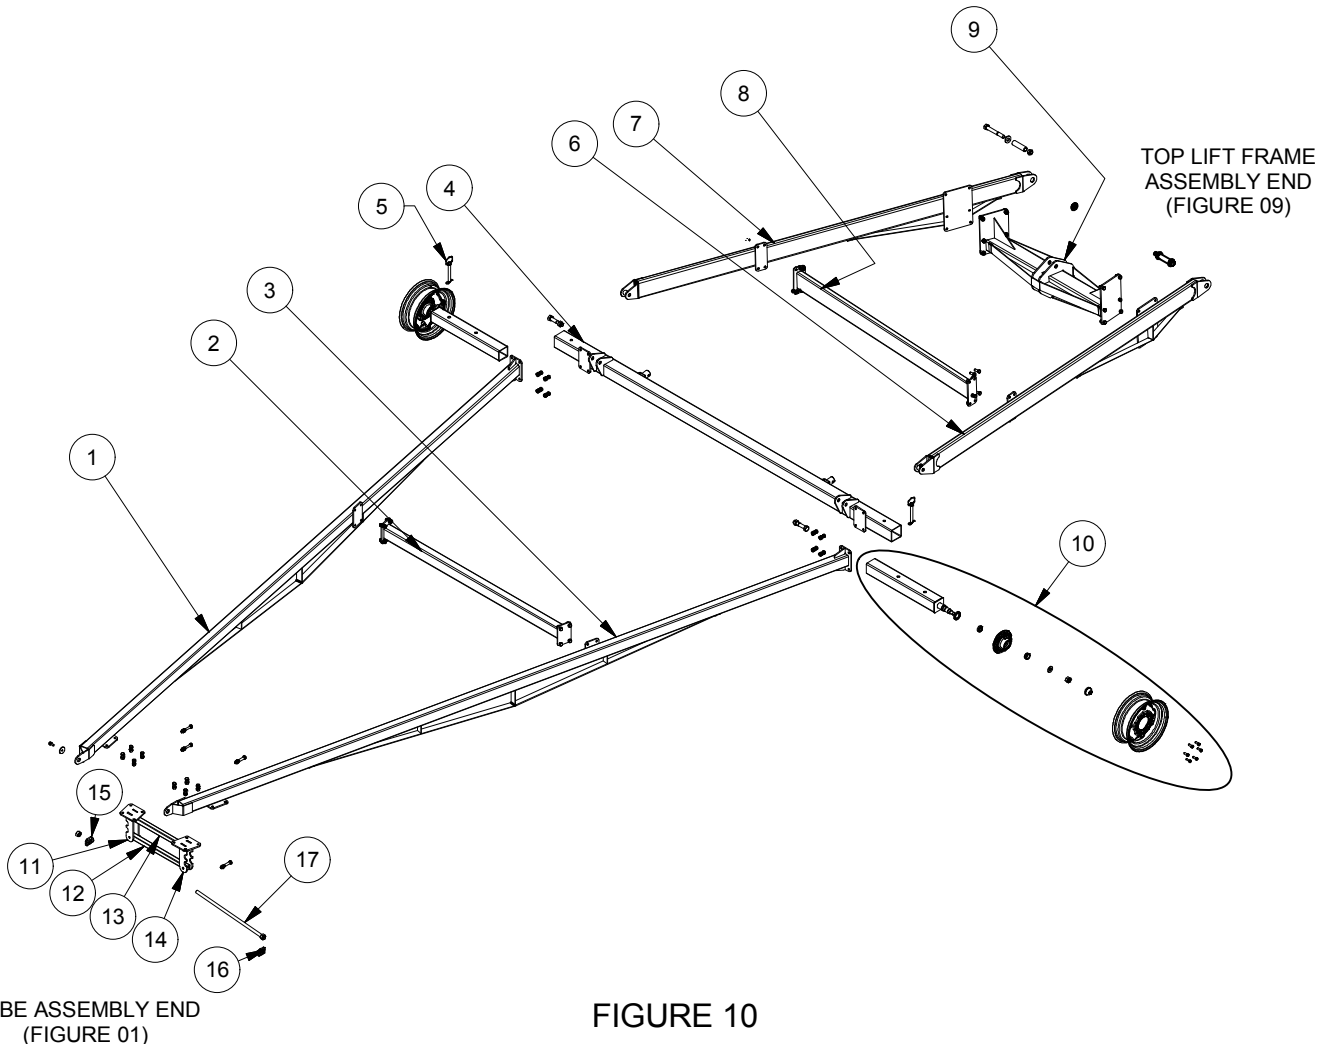

FIGURE 10
7. Lift the now assembled (FIGURE 1 & 9) together and position it over the partially assembled (FIGURE 10). Line up bottom of top lift frame to the top of the bottom lift frame. Install a pivot bushing to each side. Fasten the assemblies together at each side with 1" dia. x 8" bolt, two plated washers and a lock nut. Proceed to step 8 on this page.
1. Lay frame out as shown in **(FIGURE 10)**, ensure item **4** (axle) is on jack stands prior to beginning assembly.